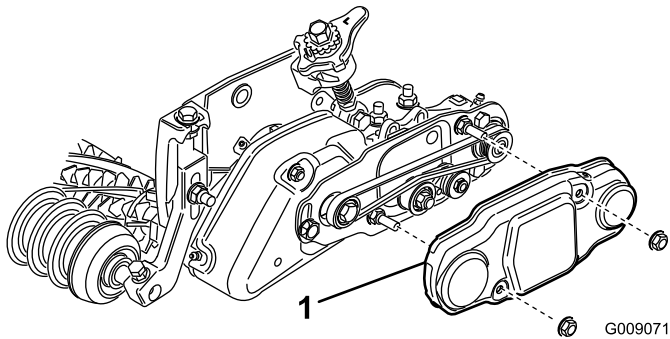

Figure 36
48. Slide the belt cover onto the mounting bolts and secure with (2) flange nuts (Figure 36).